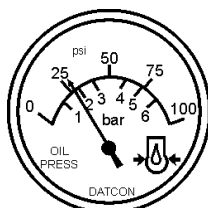

Figure 52. Oil Pressure Gauge
12. The engine oil pressure gauge (Figure 52) will indicate the oil pressure of the engine. Under normal operating conditions the oil pressure is approximately